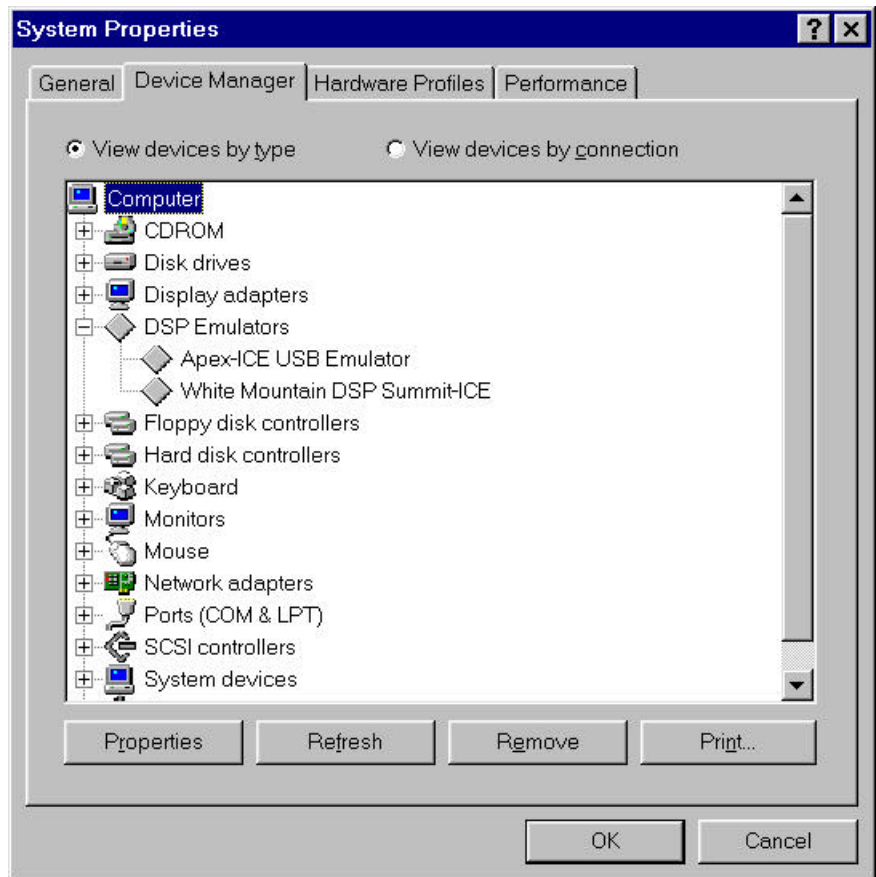

Figure 6. The Device Manager
5. Double click “DSP Emulators”. A window similar to that shown in figure 6 should be displayed.